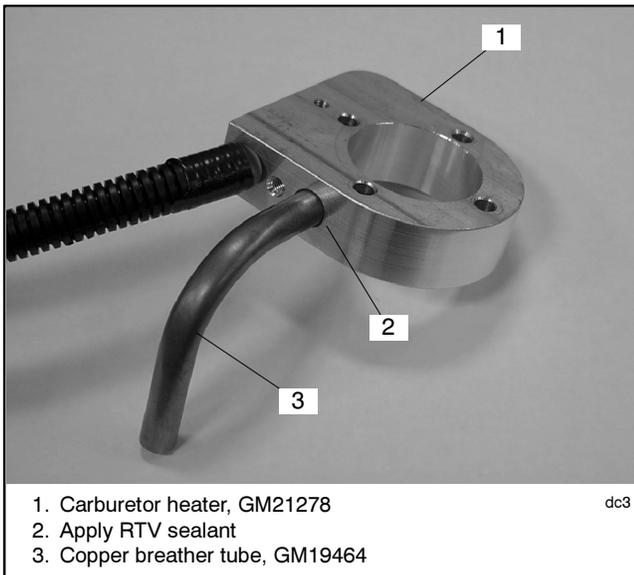

Figure 7 Heater with Copper Breather Tube
1. Apply RTV sealant to the outside of one end of the copper breather tube, GM19464 (included in the kit). Insert the tube into the drilled hole in the heater, GM21278, as shown in Figure 7. Press the breather tube approximately 10 mm (0.4 in.) into the heater plate so that the end of the tube is flush with the inside diameter but does not extend into the large opening of the heater.